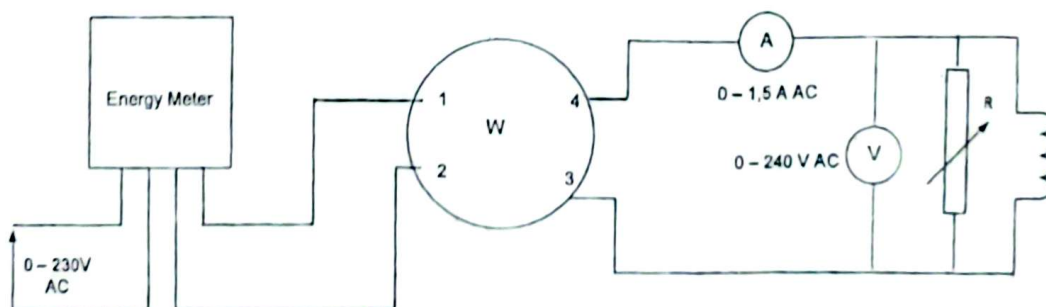

Figure 5: Power measurement on a parallel RL circuit
Step 1 – Connect the circuit as shown in Figure 5. Increase the variable resistor position to its maximum value. Turn on the power and set the input voltage to 200V.